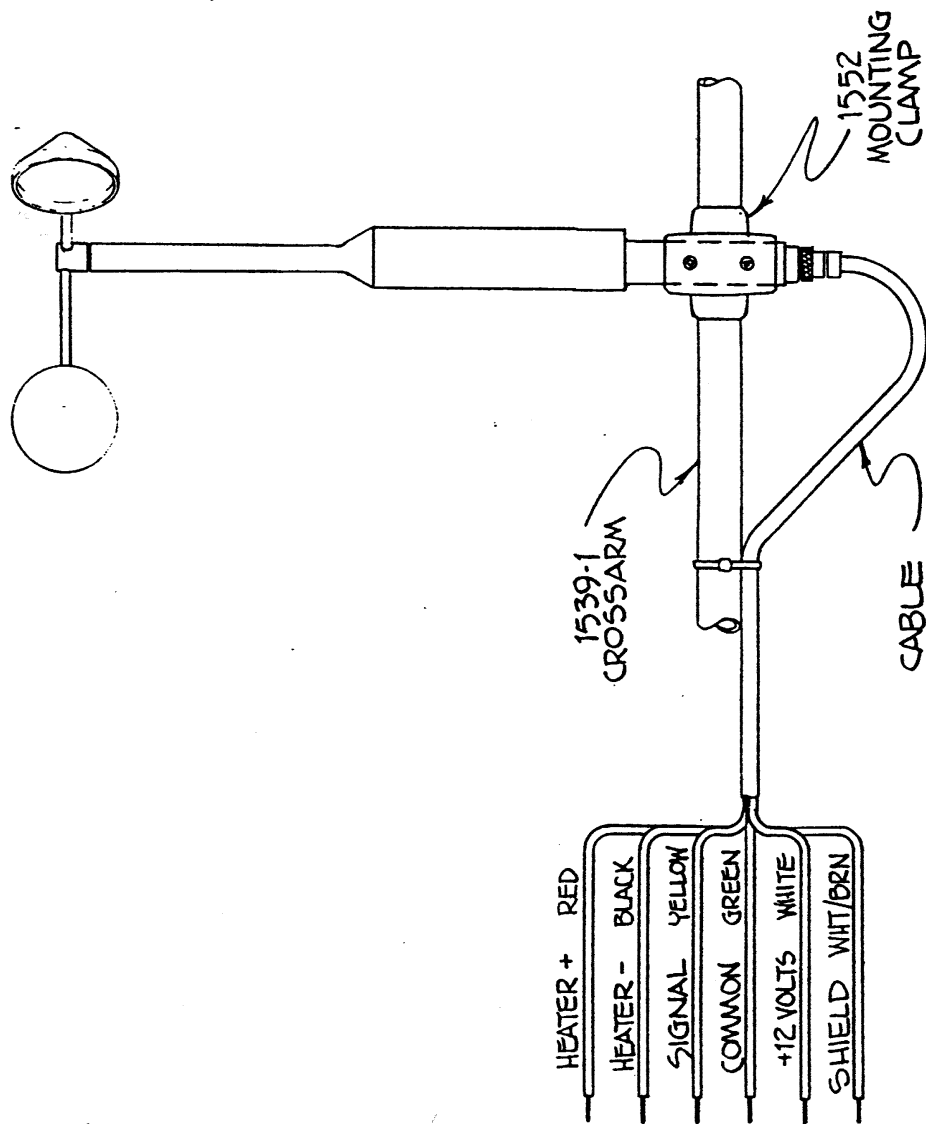

FIG. 2-1
- A. The cable assembly contains five wires. Typical wiring hookup is shown in Figure 2-1.